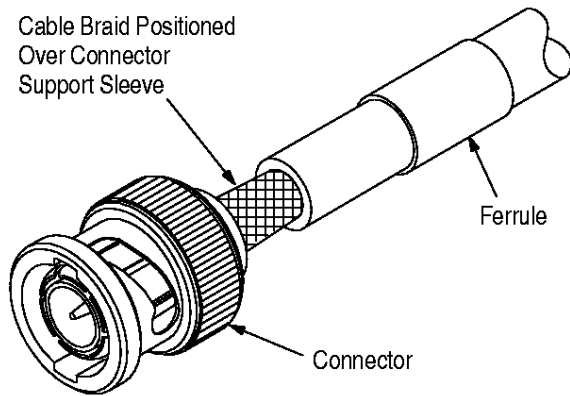

Figure 4
2. Insert crimped center contact into connector until it snaps into place. The cable braid must be positioned over the connector support sleeve. Pull back gently on the cable to ensure that the contact is held in place by the internal locking feature. See Figure 4.